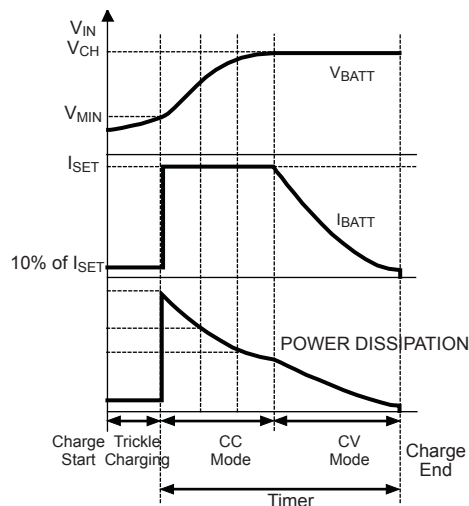

Figure 2—MP2608 Typical Charging Profile
Figure 2 below shows the typical charging profile for the MP2608. For a fully depleted battery with a terminal voltage lower than 2.6V, the MP2608 will start with the trickle charge (preconditioning) at 10% of the programmed full charge current. After the battery voltage reaches 2.6V, the charger begins charging at the constant current of the programmed value ( $I_{CHG}$ ) and the charge timer starts counting down. This is referred to as Constant Current (CC) mode. Once the battery voltage reaches 4.2V, the charger will operate in the constant voltage (CV) mode until the battery is fully charged. The charge current drops during CV mode, and the battery full indication is set when the charge timer is time off. The charge timer is to protect the system from charging a dead battery for excessive long time.